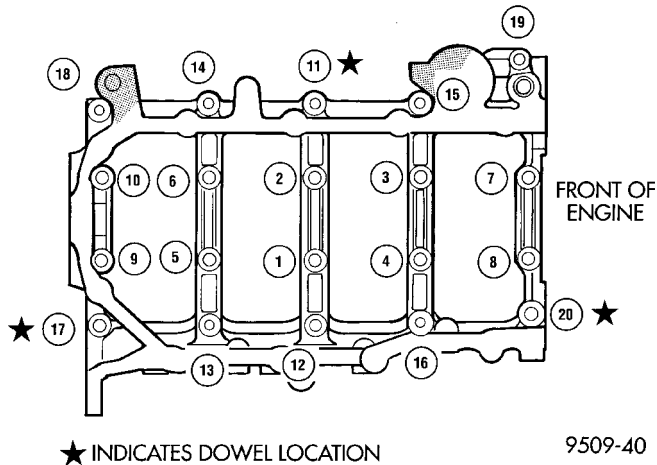

Fig. 70 Main Bearing Caps/Bedplate Torque Sequence
(5) Install lower main bearings into main bearing cap/bedplate. Make certain the bearing tabs are seated into the bedplate slots. Install the main bearing/bedplate into engine block.
(6) Before installing the bolts the threads should be oiled with clean engine oil, wipe off any excess oil.
(7) Install main bearing bedplate to engine block bolts 11, 17 and 20 finger tight. Tighten these bolts down together until the bedplate contacts the cylinder block. Torque bolts to 30 N·m (22 ft. lbs.) (Fig. 70).
(8) Install main bearing bedplate to engine block bolts (1 thru 10) and torque each bolt to 81 N·m (60 ft. lbs.) in sequence shown in (Fig. 70).
(9) Install main bearing bedplate to engine block bolts (11 thru 20), with baffle studs in positions 12, 13 and 16 and torque each bolt to 30 N·m (22 ft. lbs.) in sequence shown in (Fig. 70).
(10) After the main bearing bedplate is installed, check the crankshaft turning torque. The turning torque should not exceed 5.6 N·m (50 in. lbs.).
(11) Install oil pump. If crankshaft end play is to be checked refer to service procedures in this section.
(12) Install crankshaft sprocket.
(13) Install oil filter adapter and filter. Refer to procedure outlined in this section.